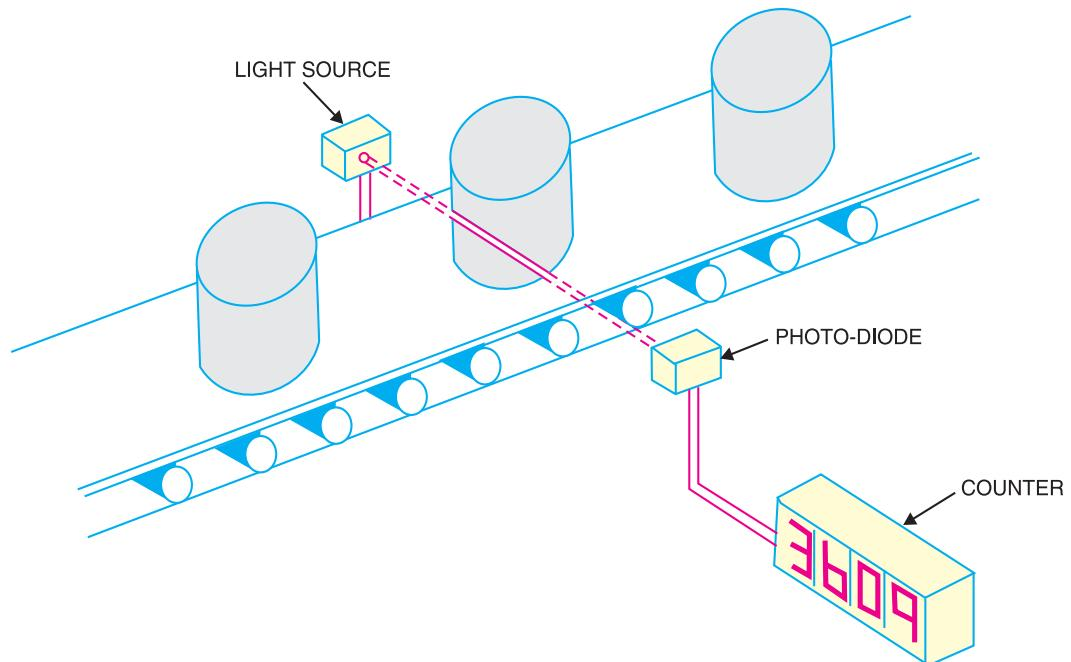

Fig. 7.15
**(ii) Counter circuit using photo-diode.** A photo-diode may be used to count items on a conveyor belt. Fig. 7.15 shows a photo-diode circuit used in a system that counts objects as they pass by on a conveyor. In this circuit, a source of light sends a concentrated beam of light across a conveyor to a photo-diode. As the object passes, the light beam is broken,  $I_R$  drops to the dark current level and the count is increased by one.